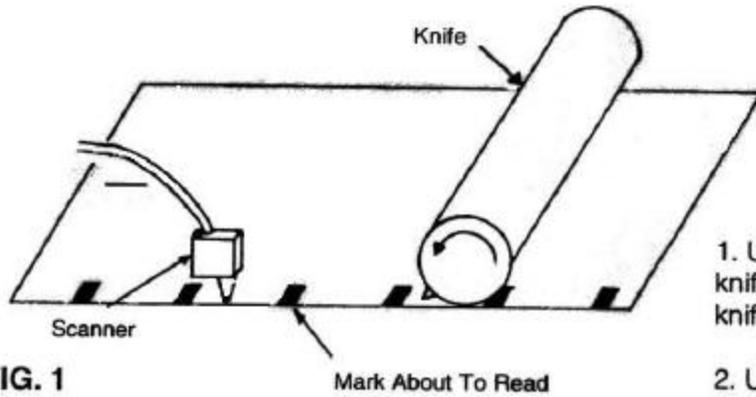

FIG. 1
2. Test run the machine to obtain the correct job length. You should be able to make (10) consecutive cuts with the cut position at the same point on the print. On model 250 Controllers the length may be adjusted using the ADVANCE or RETARD JOG BUTTONS. Pushing the advance jog button increases the length, while pushing the retard decreases it. Turn the CORRECTION MOTOR to "ON." For Model 200 Controllers, the Length Motor must be adjusted manually.
3. Check that the scanner beam is properly aligned and focused along the registration mark path. The scanner lens should be $\frac{3}{8}$ to $\frac{1}{2}$ of an inch from the web. (See Fig. 1) pp. 18
6. Using the existing MACHINE'S JOG button, rotate the knife, stopping at a point barely prior to the cutting action. (See Fig. 1) pp.18